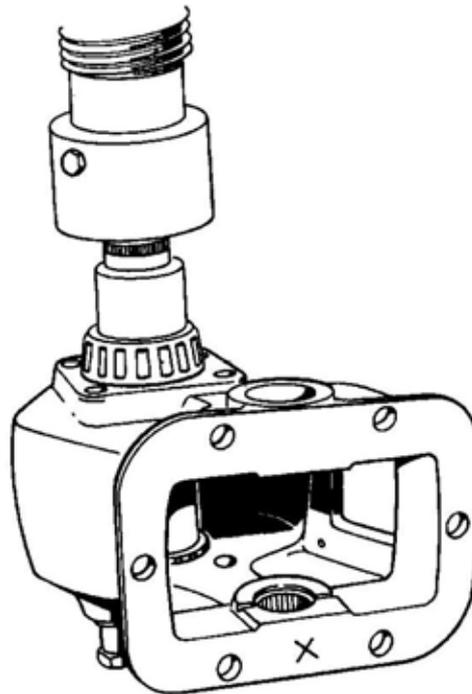

Figure 5 Installing the Drive Shaft Bearing
- c. Place the housing and shaft in a press. Position a bearing, with the taper facing away from the splines, on the drive shaft at the end opposite the output, then press the bearing onto the shaft, as shown in Figure 5, until it butts firmly against the shoulder. Remove the housing from the press.